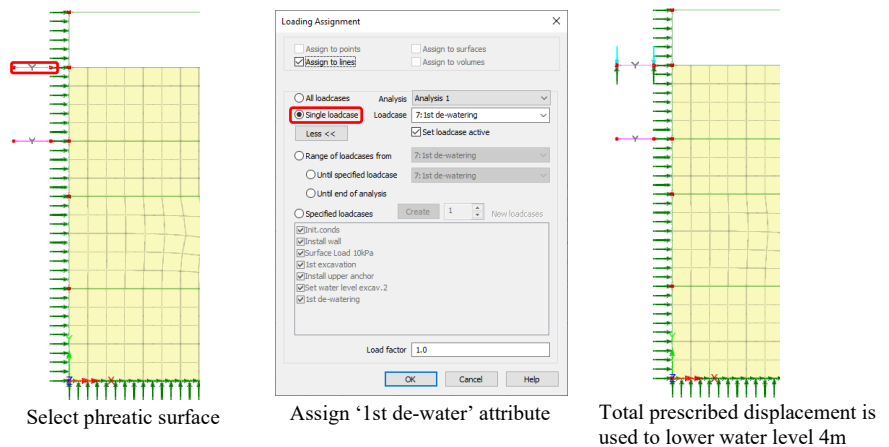

Figure 50: Lower water level in excavation
- Select the upper phreatic surface on the left and assign structural loading attribute **1st de-water**. Ensure that the **Single loadcase** radio button is selected and click **OK** (figure 50).